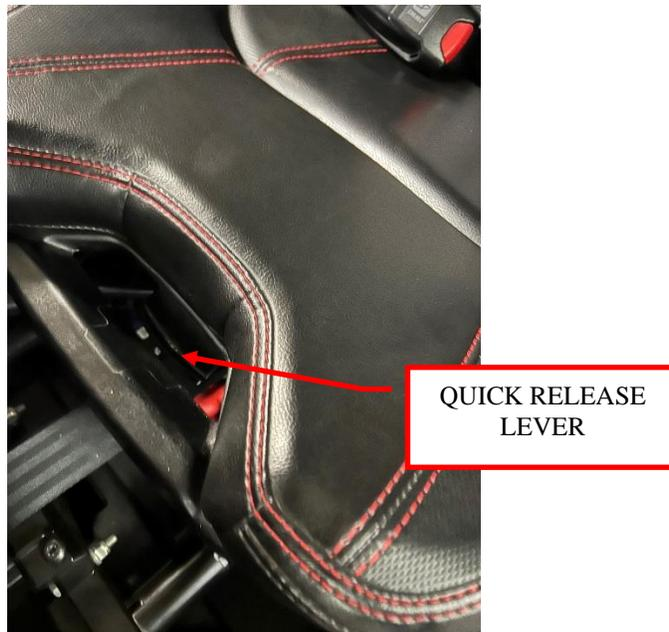

Figure 8: Remove the driver's seat.
7. Remove the driver's seat to access the battery. The seat has a quick release lever located between where the driver's legs would be. See Figure 8.